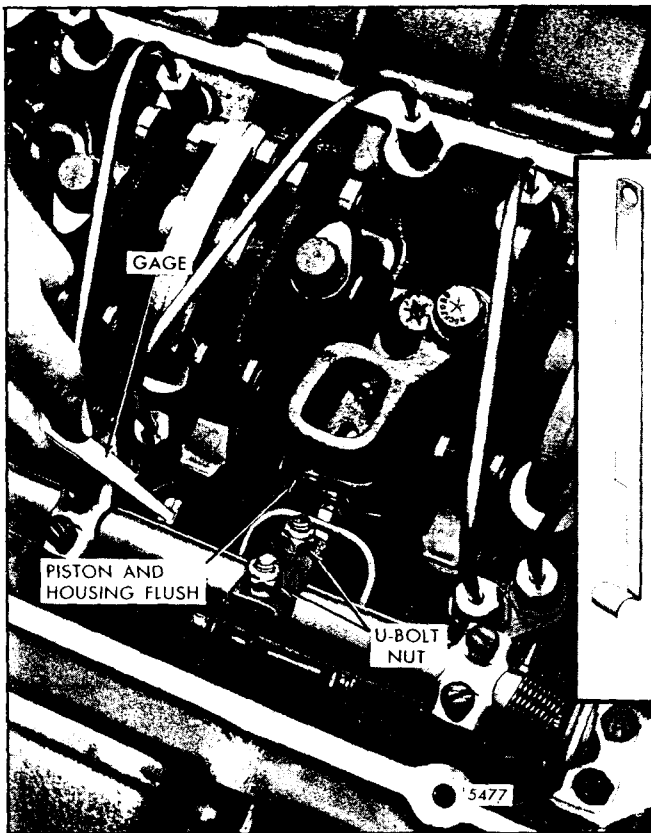

Fig. 6 - Adjusting Throttle Delay Cylinder
1. Refer to Fig. 6 and insert gage J 23190 (.454" setting) between the injector body and the shoulder on the injector rack. Then exert a light pressure on the injector control tube in the direction of full fuel.